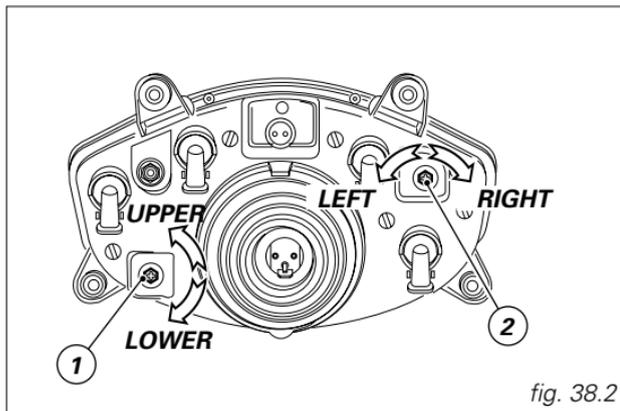

fig. 38.2
**The height of the light beam can be corrected** using the screw (1, fig. 38.2) on the left side of the headlamp. Turn the screw clockwise to lower the beam, anticlockwise to raise it.
**The side position of the headlamp is adjusted** using the adjusting screw (2, fig. 38.2) on the right side of headlamp. Turn the screw clockwise to move the beam to the right, anticlockwise to move it to the left.